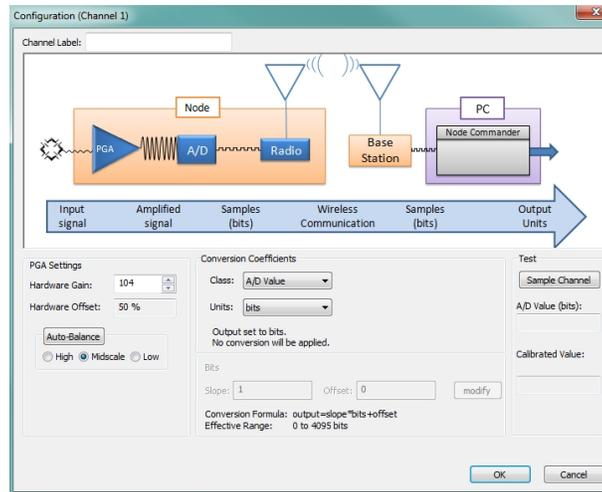

Figure 38 - Channel Settings
3. Use the following settings (Figure 38 - Channel Settings):